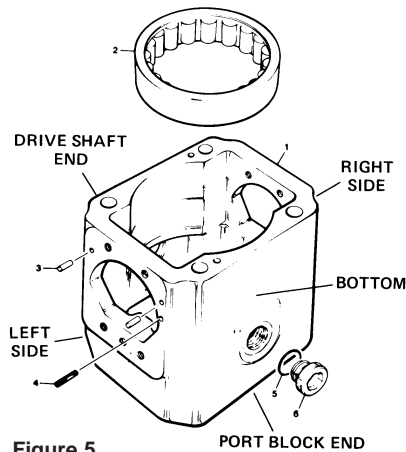

Figure 5
**See figure 5:** Wash and dry all parts. During assembly, lapped and ground surfaces should be kept lubricated with clean oil and protected from nicks or surface damage. Position housing (1) on a clean flat surface with the large open end up.
**PARTS LIST FOR FIGURE 5**